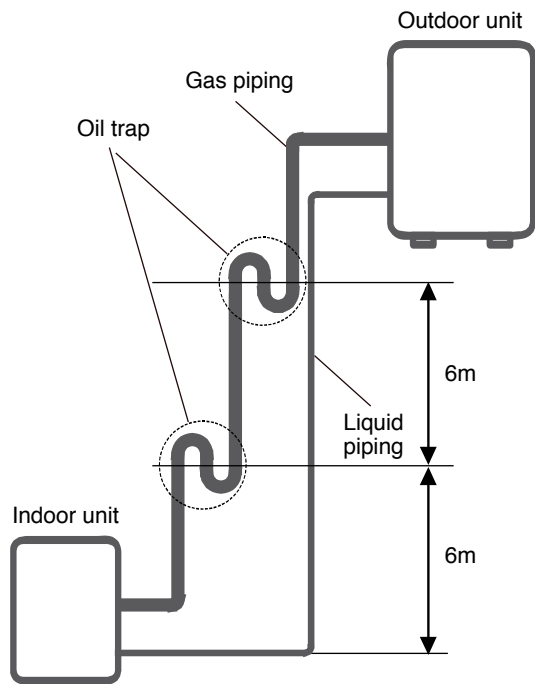

Fig. 7.2
– It is recommended that vertical suction risers not be upsized. Proper oil return to the compressor should be maintained with suction gas velocity. If velocities drop below 7.62m/s (1500fpm (feet per minute)), oil return will be decreased. An oil trap should be installed every 6m of vertical suction line riser. (See Fig. 7.2)